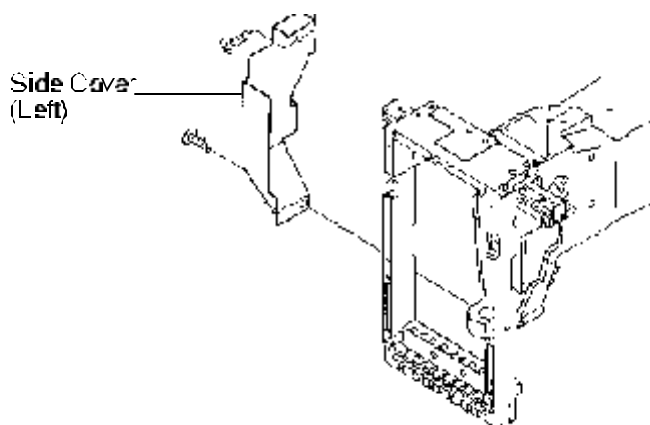

Figure 2
- Using** an Offset Phillips screwdriver, **remove** Phillips screws from Side Cover (Left). See Figure 2.